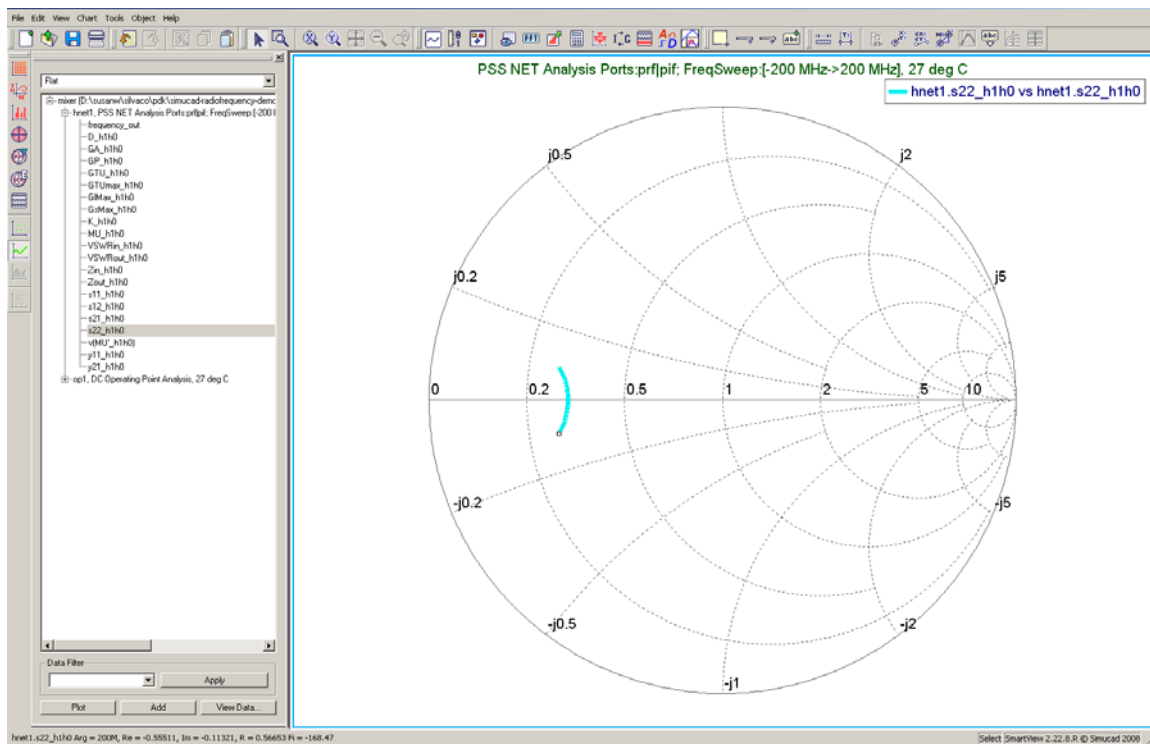

Figure 10: S22 Smith Chart Plot
2.6.2: Open Plot `hnet1`, then select vector “`s22_h1h0`”, and click **Plot**. Figure 10 shows `s22` plot on Smith Chart.